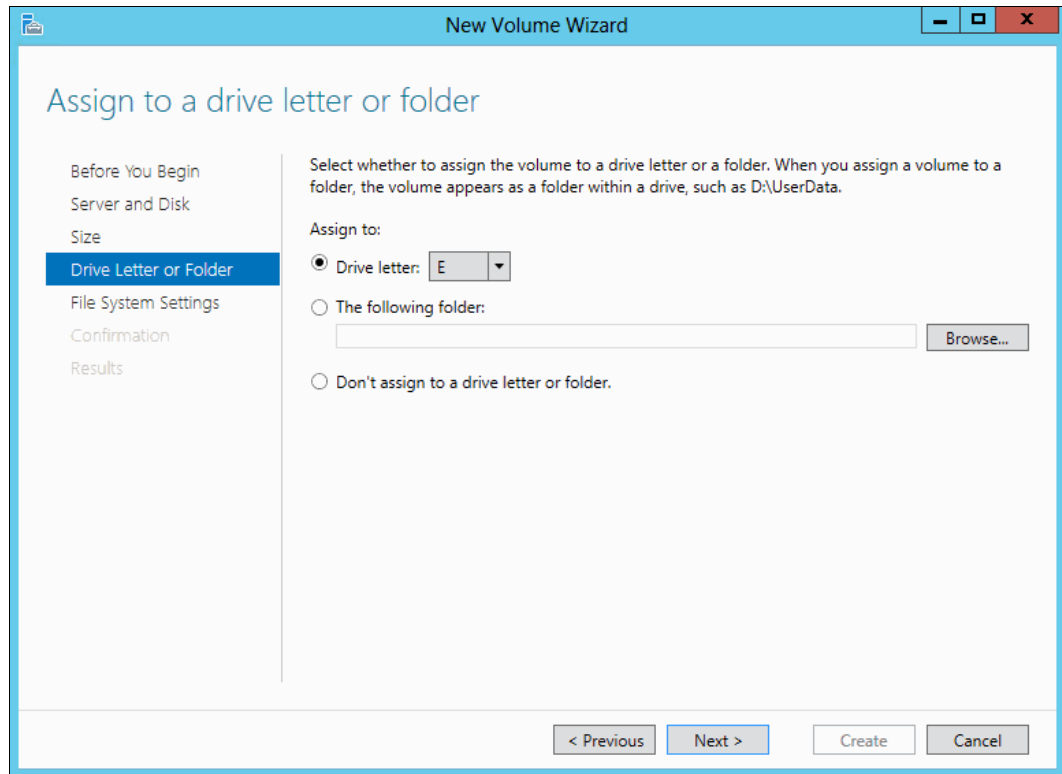

Figure 5-40 Assigning a Drive letter to the new volume
- Next, choose whether to assign a Drive letter, as shown in Figure 5-40. Click **Next** to continue.